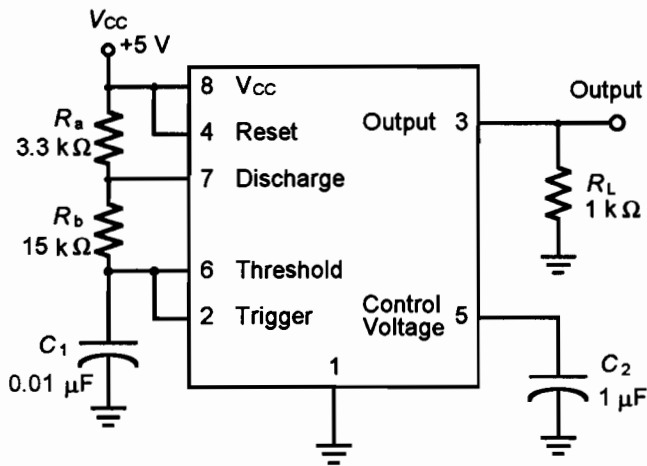

Figure 65.1
1. Connect the circuit as shown in Figure 65.1. Adjust the DC power supply to +5 V for the 555 timer.
1. Which resistors in Figure 65.1 control the timing of the 555 timer?